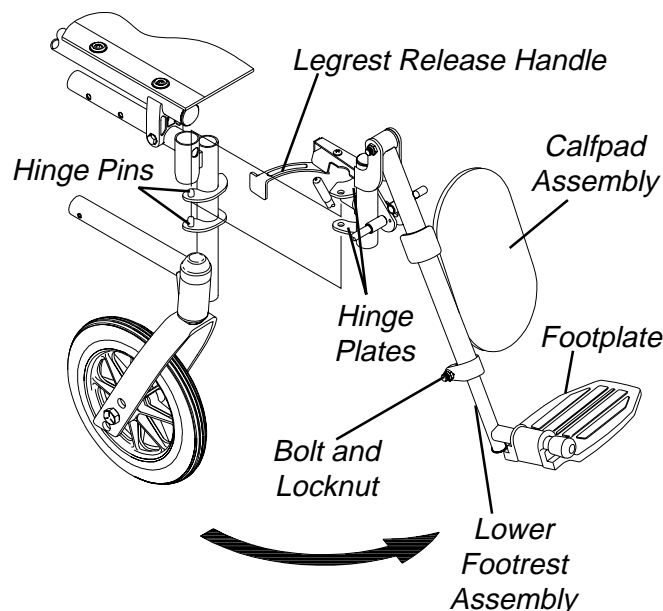

FIGURE 4 - ELEVATING LEGREST INSTALLATION
**ELEVATING LEGREST ASSEMBLY INSTALLATION (FIGURE 4)**
1. Place legrest assembly on the outside of the wheelchair and install the hinge plates onto the hinge pins on wheelchair frame (FIGURE 4).
2. Rotate legrest assembly toward the inside of the wheelchair until it locks in place (FIGURE 4).